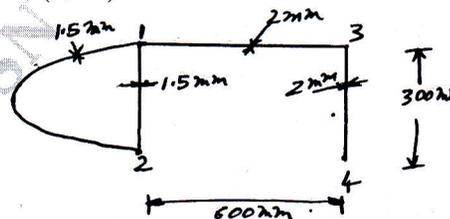

Fig.Q3(a)
- 3 a. Find the angle of twist per unit length in the wing whose cross-section is shown in Fig.Q3(a) when it is subjected to a torque of 10 kNm. Find also the maximum shear stress in the section. $G = 25 \text{ GPa}$. Wall 12(outer) = 900 mm. Nose cell area = 20,000 mm².